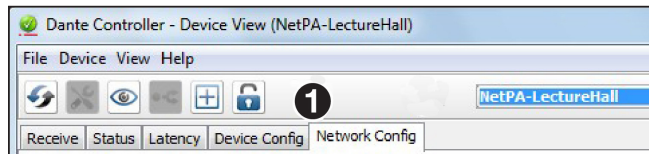

Figure 26. Network Config Tab
4. Click the **Network Config** tab to open the network configuration page (see figure 26, ❶).